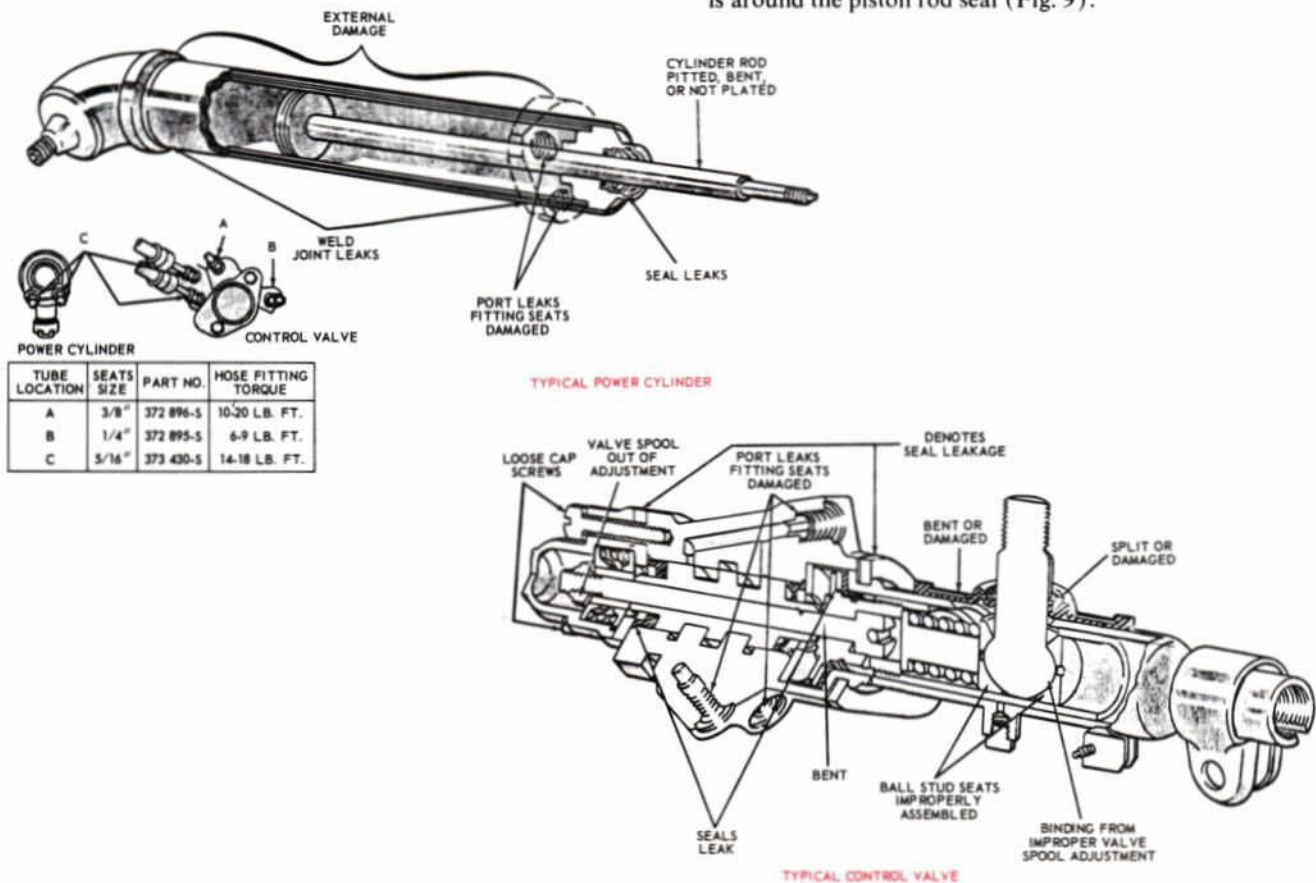
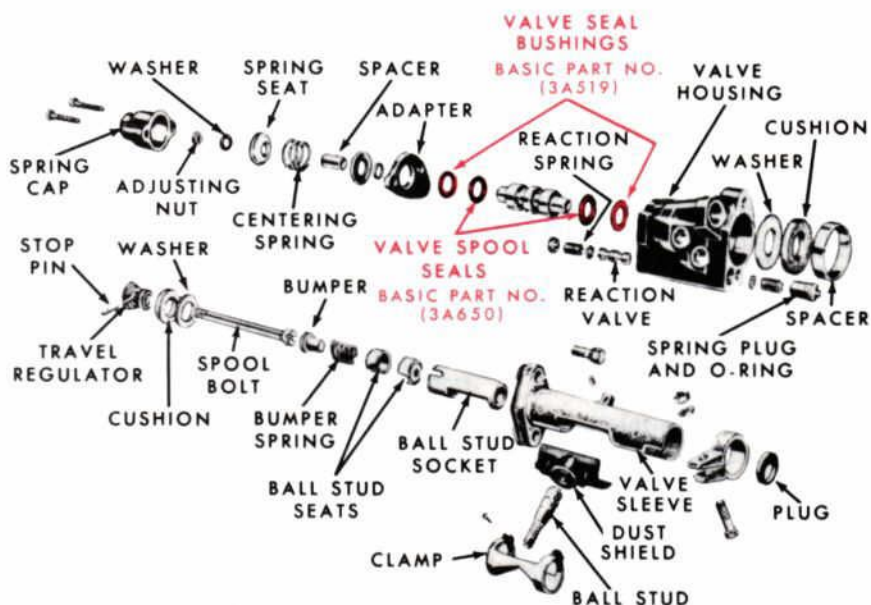

Figure 9—Control Valve and Power Cylinder Diagnosis Guide
Figure 11—Control Valve—Exploded View
3. Tighten those fittings (refer to Fig. 9 for torque specifications) where leaks appear, using a special 5-flat tube wrench.
The most probable location for leaks at the power cylinder is around the piston rod seal (Fig. 9).
Leaks in the control valve usually involve the spool valve seals (Fig. 9).
If the leak detection procedure outlined for problem No. 1 discloses leaks somewhere other than the tube seats, such as leakage at the actuator end or between the end cap and the valve body (Fig. 9), replace all the seals using a control valve seal repair kit (Ford Basic Part Number 3A650). Use all the parts in the kit (Fig. 11), and be sure they are properly installed. When assembling the new seals in the valve, an application of silicone grease to the internal parts will help to provide a better seal against future leakage. Apply grease to the centering spring area, especially on the cap and spacer mating surfaces. Coat the threads of the cap retaining bolts with grease. The rubber boot seals, the actuator assembly, and the metal cup seals in the control valve should also be coated with silicone grease.
NOTE: Over-heating is indicated if disassembly of the valve reveals melted plastic seal containers (Fig. 11). Valves exhibiting this condition can be rebuilt using new retainers (Ford Basic Part Number 3A519) in addition to the 3A650 seal kit. However, the following additional checks are recommended to preclude recurrence.